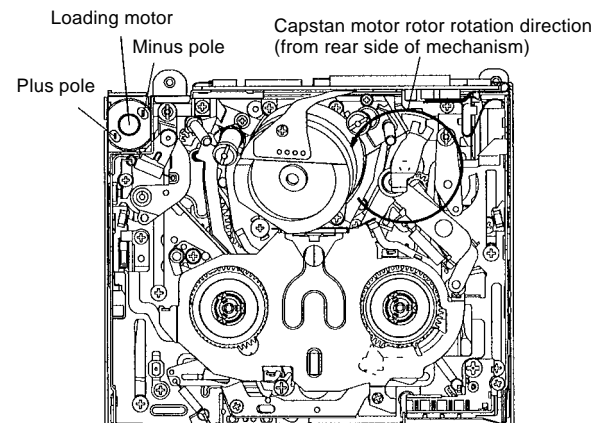

Fig. 1
- (1) Apply DC3V to the loading motor unload slightly.
- (2) After the tape is slackened, turn the rotor (lower side of mechanism) of capstan motor to tighten the tape. (Arrow direction, Fig. 1)
- (3) Repeat the operations (1) and (2). After the pole base has been completely unloaded, ascertain that the tape is not loose.
- (4) Finally apply again DC3V to the loading motor, so that the cassette controller ejects.
- (5) Take out the cassette.
Note) DC3V is applied to the loading motor as shown Fig 1. Then, the mechanism moves in the unloading direction.